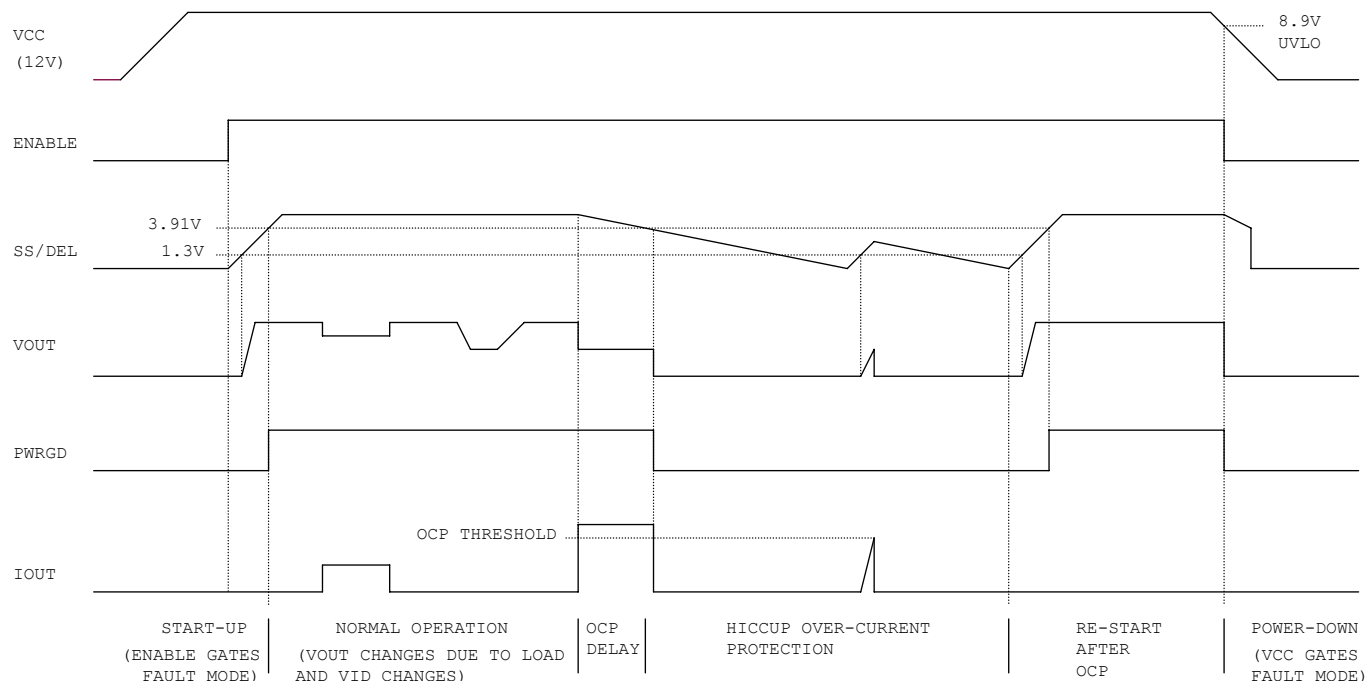

Figure 10. Operating Waveforms
Figure 10 depicts the various operating modes as controlled by the SS/DEL function. If there is no fault, the SS/DEL pin will begin to be charged. The error amplifier output is clamped low until SS/DEL reaches 1.3V. The error amplifier will then regulate the converter's output voltage to match the SS/DEL voltage less the 1.3V offset until it reaches the level determined by the VID inputs. The SS/DEL voltage continues to increase until it rises above 3.91V and allows the PWRGD signal to be asserted. SS/DEL finally settles at 4V, indicating the end of the soft start.
The SS/DEL pin voltage controls the slew rate of the converter output voltage, as shown in Figure 10. After the ENABLE pin voltage rises above 0.6V, there is a soft-start delay time t_{SSDEL} , after which the error amplifier output is released to allow the soft start. The soft start time t_{ss} represents the time during which converter voltage rises from zero to V_O . t_{ss} can be programmed by an external capacitor, which is determined by Equation (1).